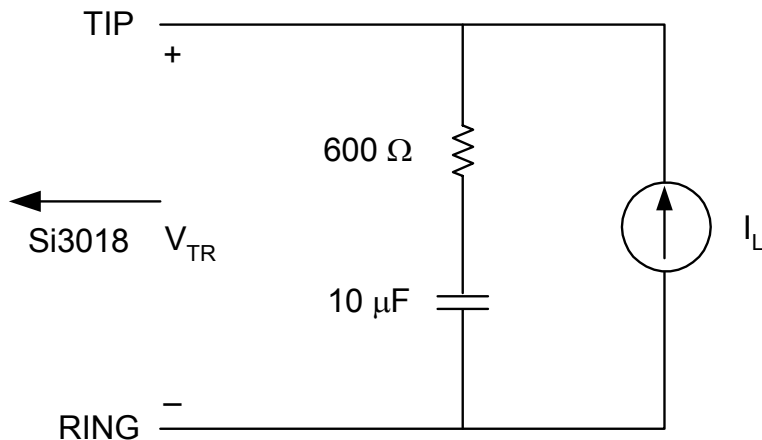

Figure 1. Test Circuit for Loop Characteristics
($V_D = 3.0$ to 3.6 V, $T_A = 0$ to 70 °C for K-Grade, see Figure 1)
- Measured at TIP and RING with 600 Ω termination at 1 kHz, as shown in Figure 1.